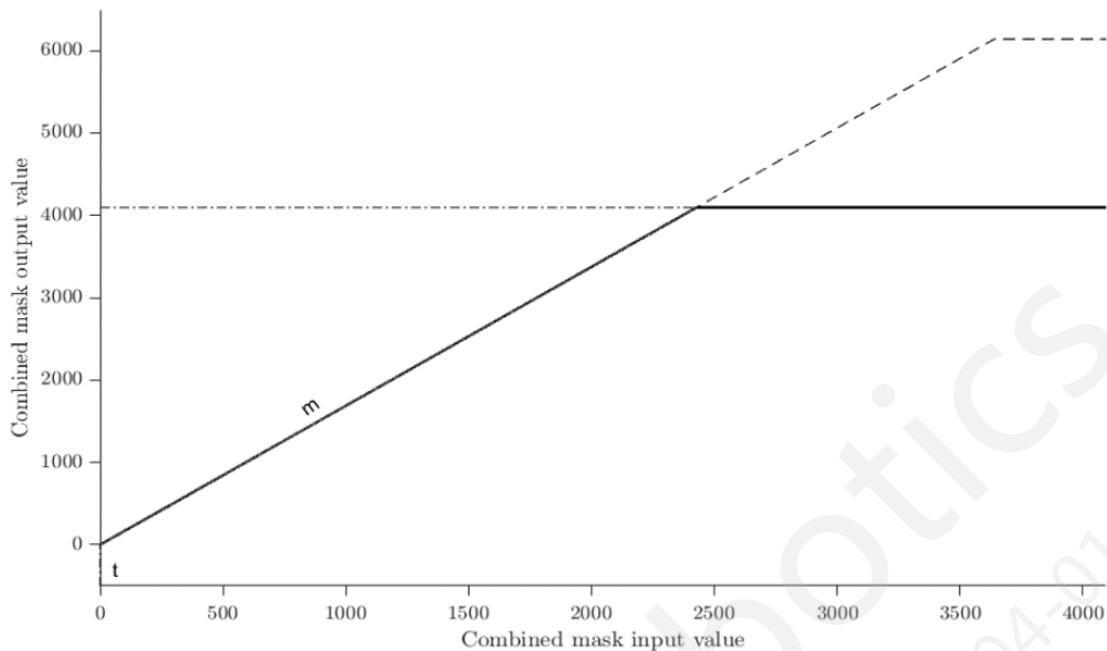

Figure 3.16-13 Final mask parameters and curve.
These registers define the linear threshold function, depicted in Figure 3.16-13. The input to this function is a combination of all the previously described masks, so its purpose is to provide some final control over the fringing detection.
- Referring to Figure 3.16-13, adjust Hsl_thresh to make fringed areas as light as possible, with all other areas as dark as possible. Figure 3.16-14 shows a tuned final mask.